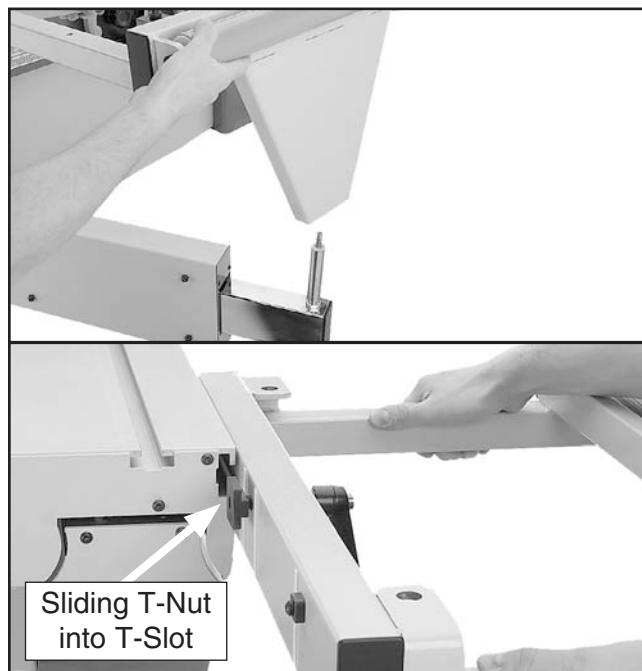

Figure 44. Installing the crosscut table.
38. With the help of an assistant, place the crosscut table on the pivot pin of the swing arm and slide the T-nut into the T-slot in the sliding table (see **Figure 44**).